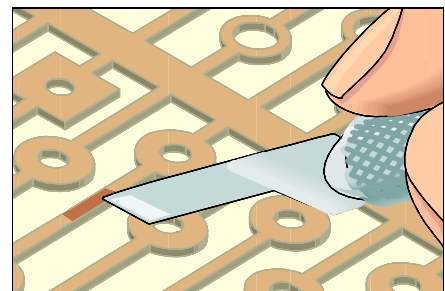

Figure 3: Scrape off the adhesive bonding film from solder joint area on the back of new land.
9. Before trimming out the new land carefully scrape off the adhesive film from the solder joint connection area on the back of the new land. (See Figure 3).